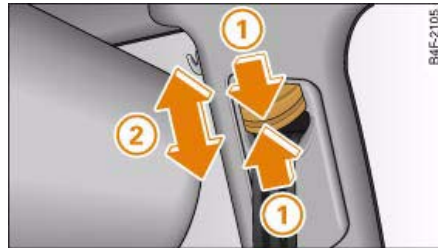

Fig. 212 Belt height adjustment for the front seats: guide fitting
- Take hold of the guide fitting and *slide it up* ⇒ fig. 212 (1), or
- *Compress the adjuster* (2) and *slide the guide fitting downwards* (1).